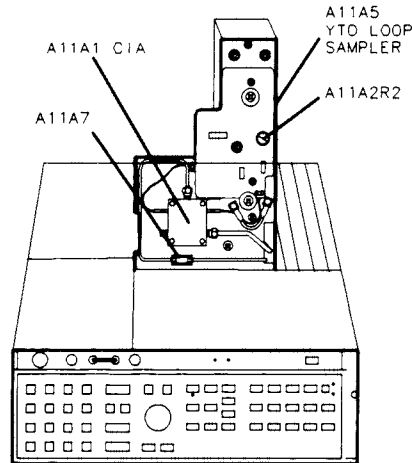

Figure 3-71. A11 YTO Loop Service Position
5. Install the A11 YTO Loop Assembly in the Service Position by removing the three screws (marked with the letter A) securing the A11 YTO Loop Assembly in the RF Section. Figure 3-71 shows the A11 service position. Grasp the two metal extractors on the A11 assembly, and slide the assembly upwards until it just clears the RF Section. Rotate the assembly 90° towards the front of the RF Section and secure the Servicing Support Screw to the threaded
7. Disconnect A11A7 6.20 GHz Lowpass Filter/Attenuator/Cable Assembly from the COUPLED OUT connector of A11A1 CIA Assembly. See Figure 3-71 for the location of A11A7.
11. On the RF Section, adjust A11A2R2 GATE BIAS ADJ fully counterclockwise. See Figure 3-71 for the location of A11A2R2.